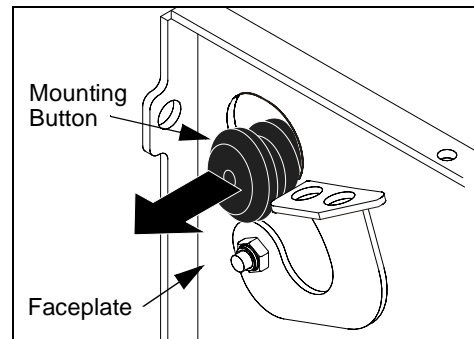
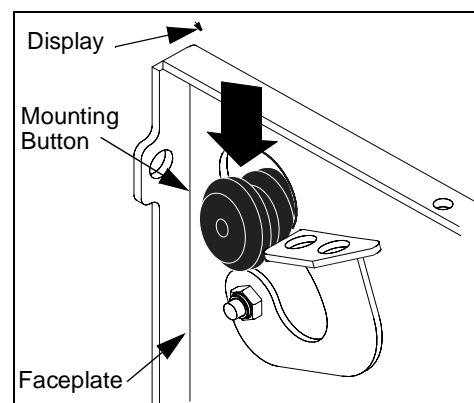

Figure 4: Align Display
Figure 5: Lower Display
2. While supporting each side of display, align four mounting buttons on interface bracket with four teardrop slots in mount faceplate (See Figure 4). Lower display firmly into place (See Figure 5).